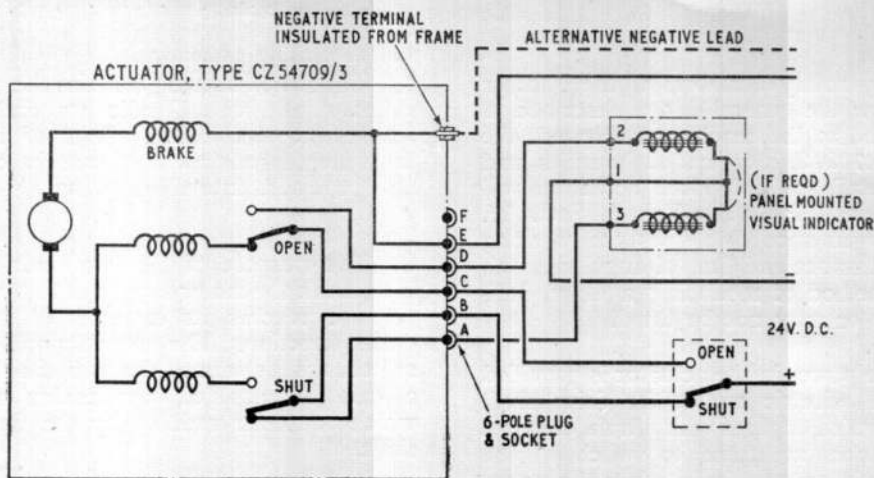

Fig. 3. Circuit diagram
9. The switches are of the single-pole, snap-action, change-over type, the switch bases being slotted to permit a fine adjustment in the travel of the output shaft. The circuit diagram (*fig. 3*) shows the switches connected to an external visual indicator. This is a typical aircraft installation arrangement.
11. A diagram of the electrical connections for this particular actuator appears in *fig. 3*. Connections from the actuator to the external circuit are made at a 6-pole plug and socket, the plug of which is mounted on the actuator. An insulated 4 B.A. terminal, fixed in the side of the switch housing, serves as an alternative point of connection for the negative lead. When this terminal is used, pin E in the plug and socket remains unconnected.